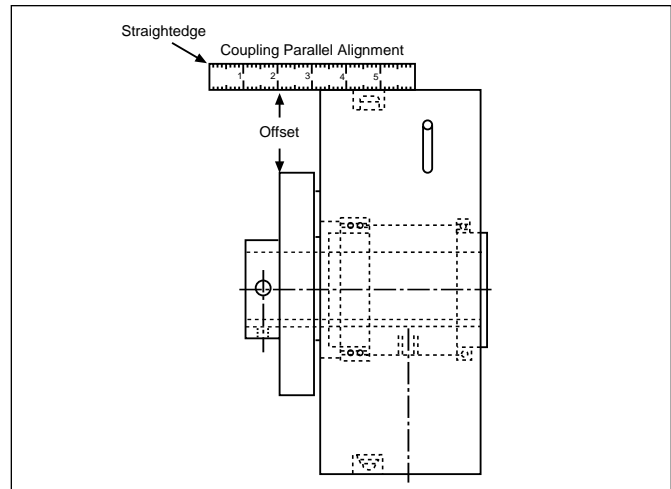

FIGURE 13
- Place a straightedge across the clutch housing and coupling flange as shown in Figure 13.
- a. Place a straightedge across the clutch housing and coupling flange as shown in Figure 13.